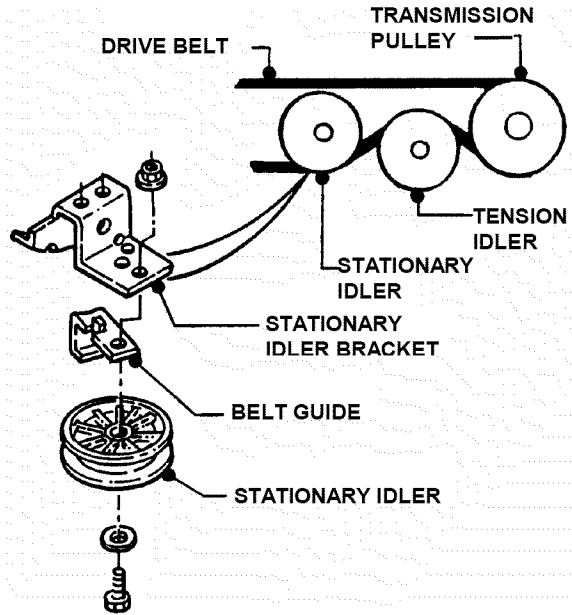

FIGURE 4.36
3. Route belt through stationary and tension idlers. See Figure 4.36.
NOTE: When installing a new belt, make certain the stationary idler is mounted in the hole closest to the L.H. side of the tractor. See Figure 4.36.